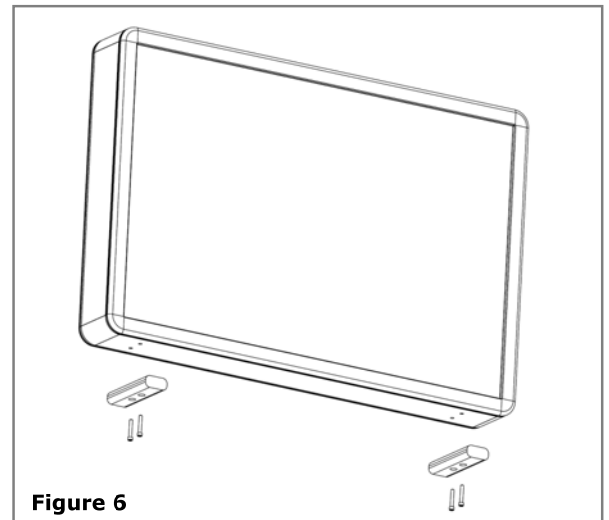

Figure 6
1. **Tabletop / Counter Option** – Aluminum feet can be ordered for this application. Please contact Stylmark at 1-800-328-2485 for more information about this option. **See Figure 6.**